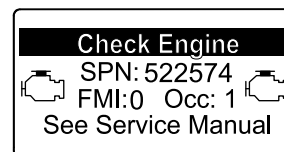

Figure 57
- Engine warning SPN 522574, FMI: 0 (Figure 57)